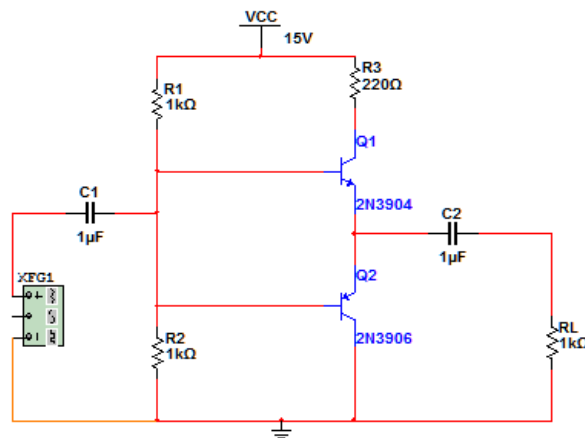

Figure 1: Class B Push-pull amplifier
1. Make the circuit as shown in figure 1.